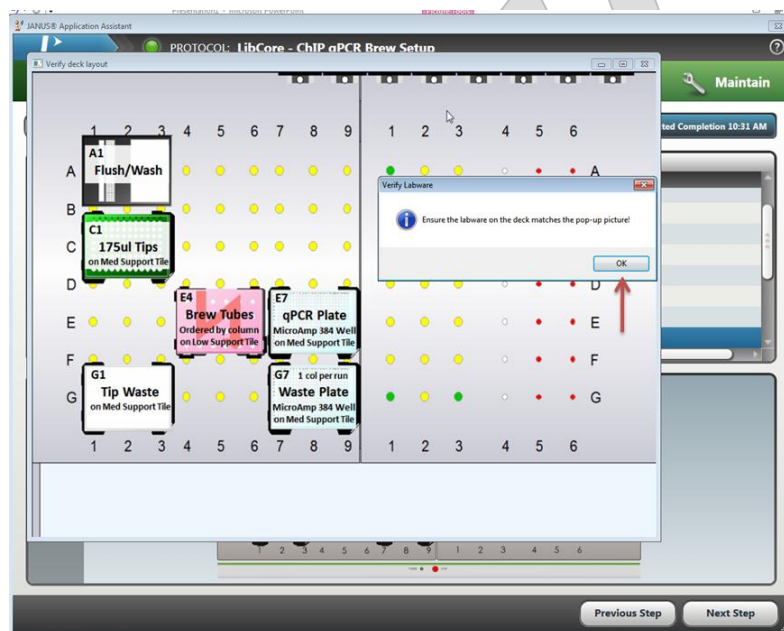
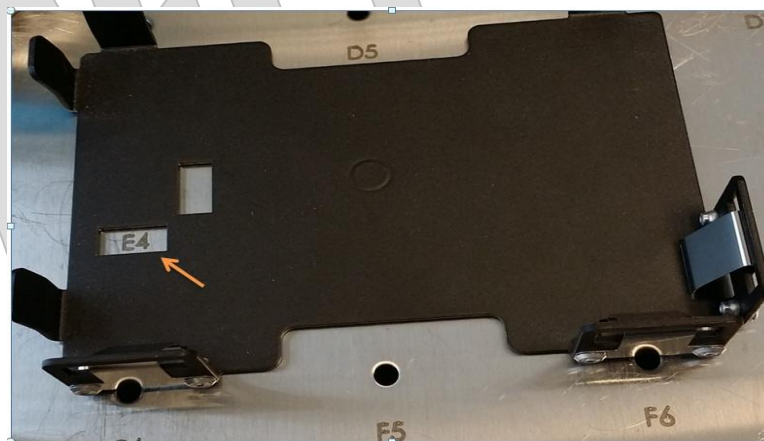
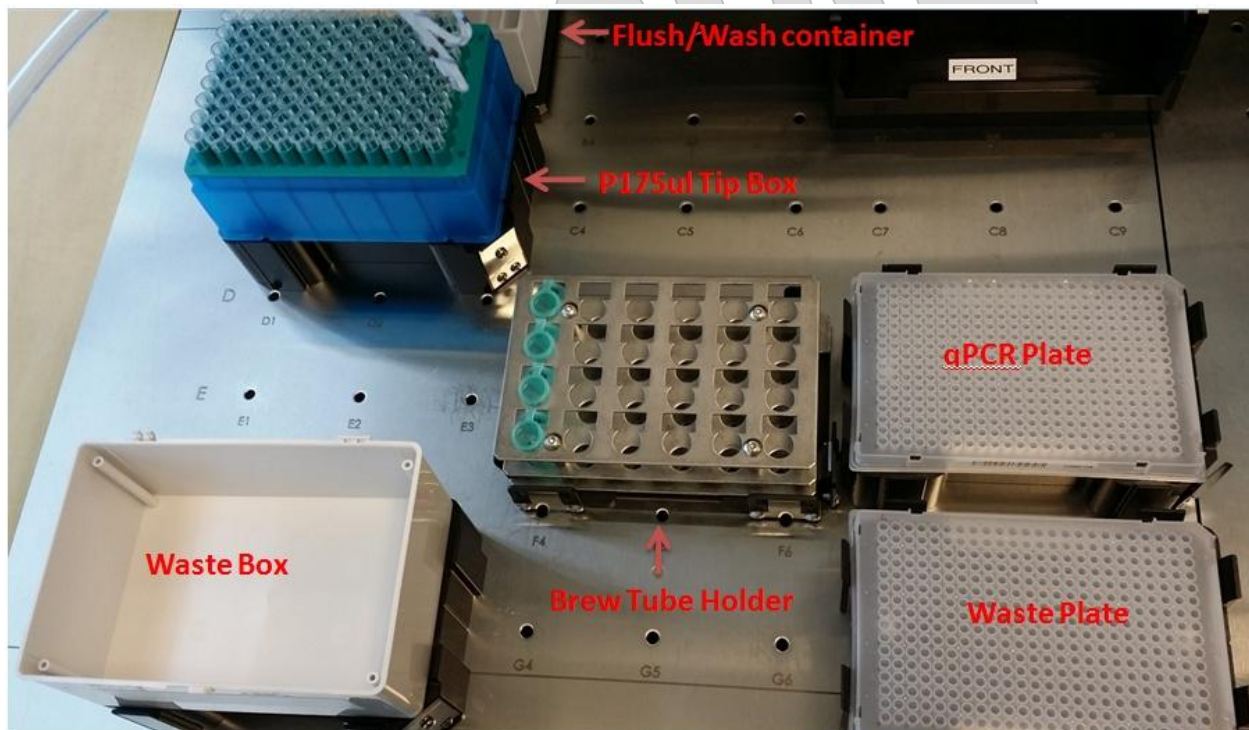

Figure 11: Deck layout
Figure 12: Correct grid position on the base
Figure 15: Snap shot of a correct setup on the deck
3.24. Set up the deck as illustrated in Figure 11. The deck illustration informs the user of the type of base to be used as well as the location on the JANUS, it has been placed in. Ensure the correct type of base is being used. Move the pop up window out of the way if it is blocking the set up view. **Clicking OK will initiate the run.** Ensure the bases for the plates and brew tubes are in the correct orientation and position. This is easily determined as the deck of the instrument is a grid. The grid positions can be visualized through the base (Figure 12).
3.27. Ensure the deck is set up correctly according to the deck layout illustrated in the JANUS Assistant software (Figure 11). Figure 15, is a snap shot of a correct layout.